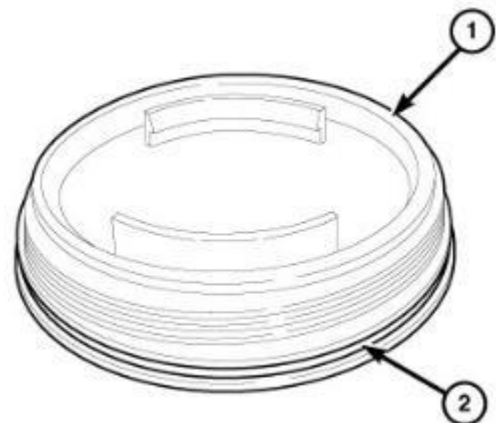

Figure 60 – Filter Cover O-ring
- 105. Lubricate the **NEW** O-ring seal (2) on filter covers (1) with clean diesel (Figure 60).